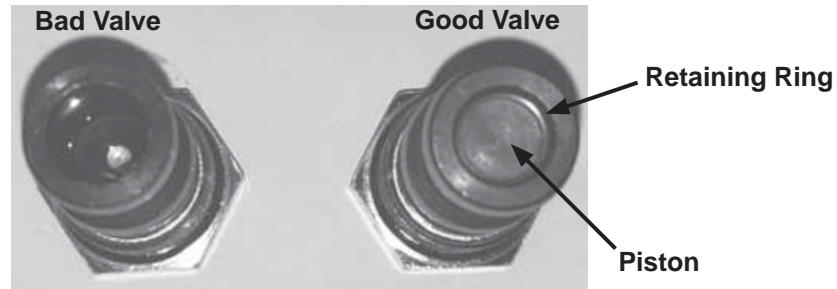
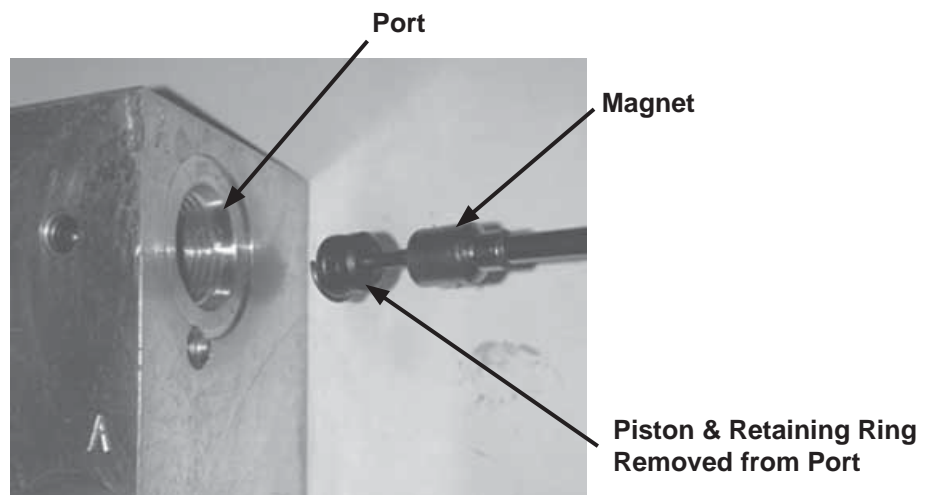

Fig. 3-1
Fig. 3-2
6. Inspect nose of removed **pilot operated check valve** for piston and retaining ring (**Fig. 3-1**).
7. If PO check valve is missing the piston (**Fig. 3-1**), use a magnet to remove the piston and retaining ring from the manifold port (**Fig. 3-2**).
9. Clean off oil residue on the manifold block (**Fig. 3-2**).